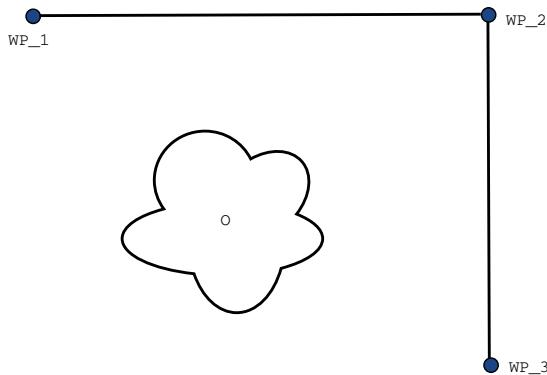

Figure 16.2: WP_1: initial position, WP_2: via point, WP_3: pick up position, O: obstacle.
Example Consider a pick and place application as an example (see figure 16.2), where the robot is currently at Waypoint 1 (WP_1), and it needs to pick up an object at Waypoint 3 (WP_3). To avoid collisions with the object and other obstacles (0), the robot must approach WP_3 in the direction coming from Waypoint 2 (WP_2). So three waypoints are introduced to create a path that fulfils the requirements.